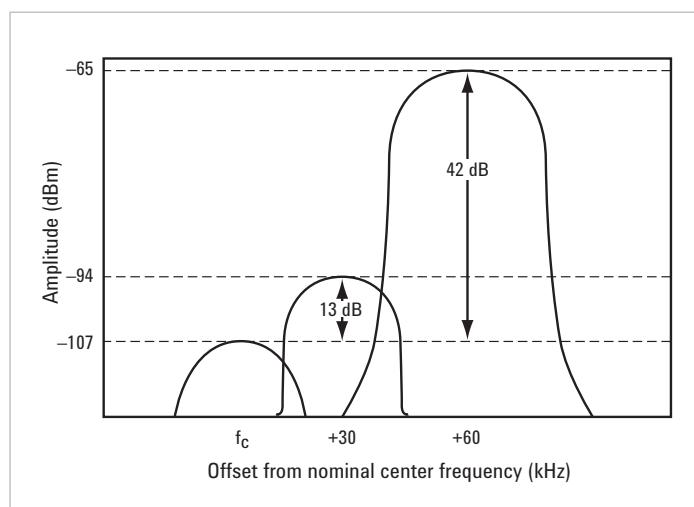
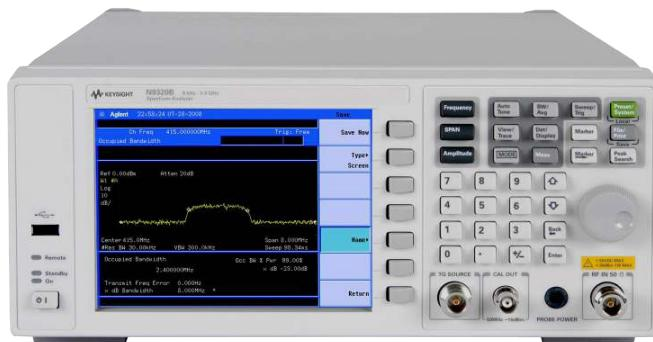

Figure 5a. Adjacent channels in frequency spectrum
Figure 5b. The Keysight N9320B RF Spectrum Analyzer is capable of measuring power across the frequency spectrum
**Why?** Transmitter problems (or impairments) can cause signal power splatter thus, occupying more bandwidth than allowed and causing interference with adjacent channels. Adjacent channel power measurements can be very important in this regard because they tell the engineer how well their device will perform under real-world conditions (Figure 5a). An example of equipment that may be used for this step is the Keysight N9320B RF Spectrum Analyzer, shown in Figure 5b.